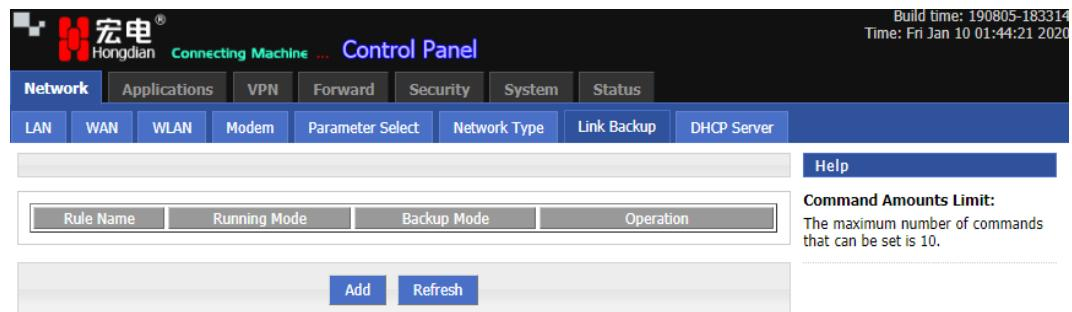

Figure 5-17 Link backup tab
Open the Link Backup tab, as shown in Figure 5-17.
Step 3 Click Add to open the Add Link Backup rule page, as shown in Figure 5-17.